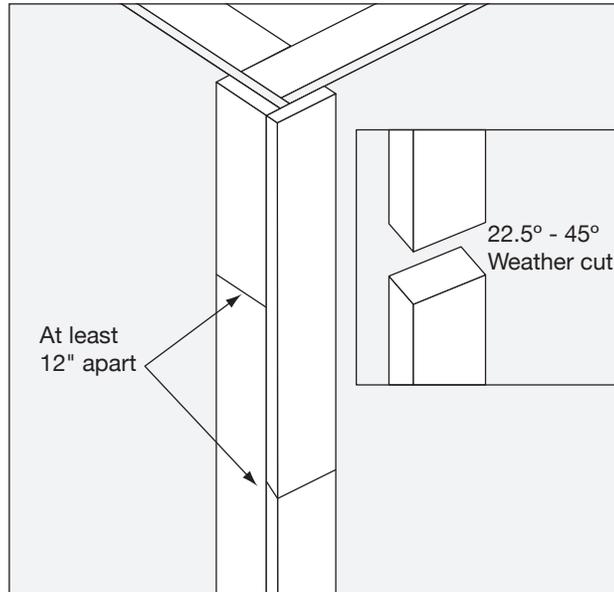

Fig. 10
- In situations where the height of the home requires more than one piece of corner trim installed vertically, create a 22.5° - 45° weather cut at the butt joints where angle will slope down and away from the building (**Fig. 10**)
- Stagger joints on both sides of the corner (**Fig. 10**)